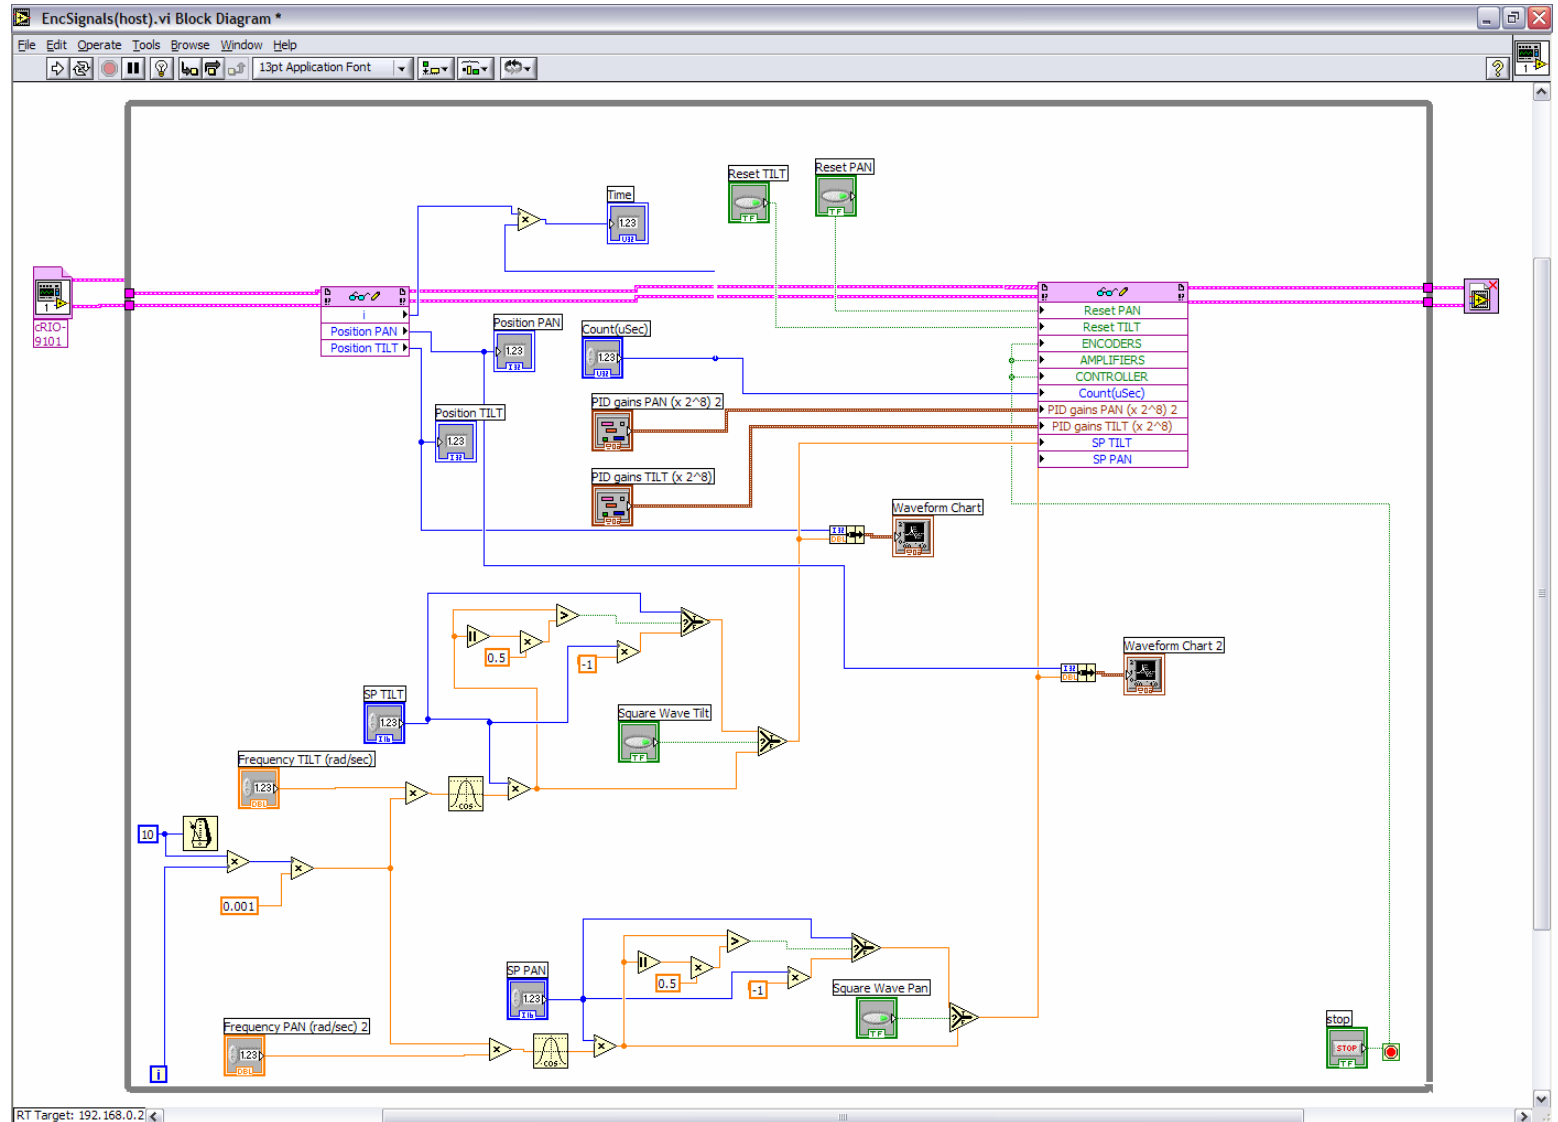

Figure 3
Build the Host Interface application shown below in **Figure 3** on a RT target. For detailed instructions, refer to the instructions below:
22. Make all the other standard connections shown in **figure3**.